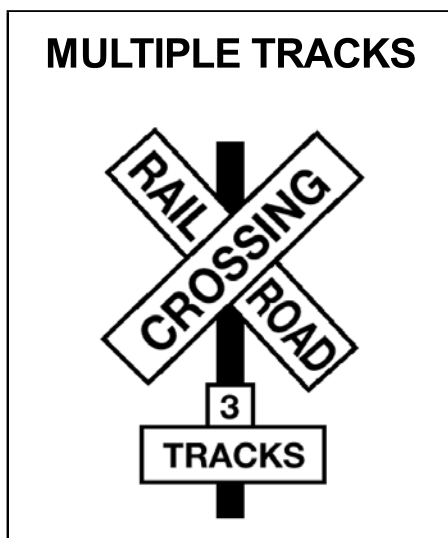

Figure 10.7
**Crossbuck Signs.** This sign marks the crossing. It requires you to yield the right-of-way to the train. If there is no white line painted on the pavement, you must stop the bus before the crossbuck sign. When the road crosses over more than one set of tracks, a sign below the crossbuck indicates the number of tracks. See Figure 10.7.